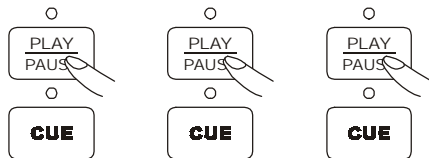

Fig.9 Fig.10 Fig.11
- (1) By rapidly pressing the CUE BUTTON (14)
- a. Press PLAY/PAUSE BUTTON (22) so that music is playing. PLAY/PAUSE LED will light (figure 9).